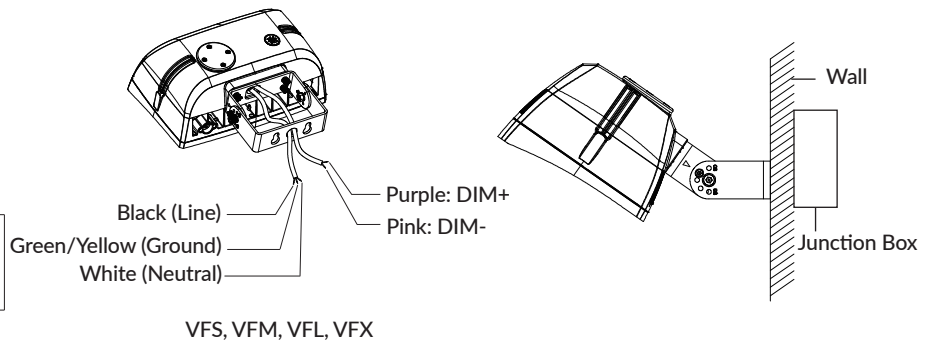

Figure 2-5
- To adjust the fixture's angle, loosen the Locking Bolt, position the fixture to the desired angle and then retighten the Locking Bolt securely to lock it in place. The adjustable angle is 0~+/-90° (Figure 2-5).